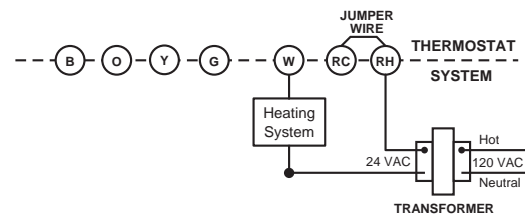

Figure 2. Typical wiring diagram for heat only, 2-wire, single transformer systems
2. Connect wires beneath terminal screws on base using appropriate wiring schematic (see fig. 2).